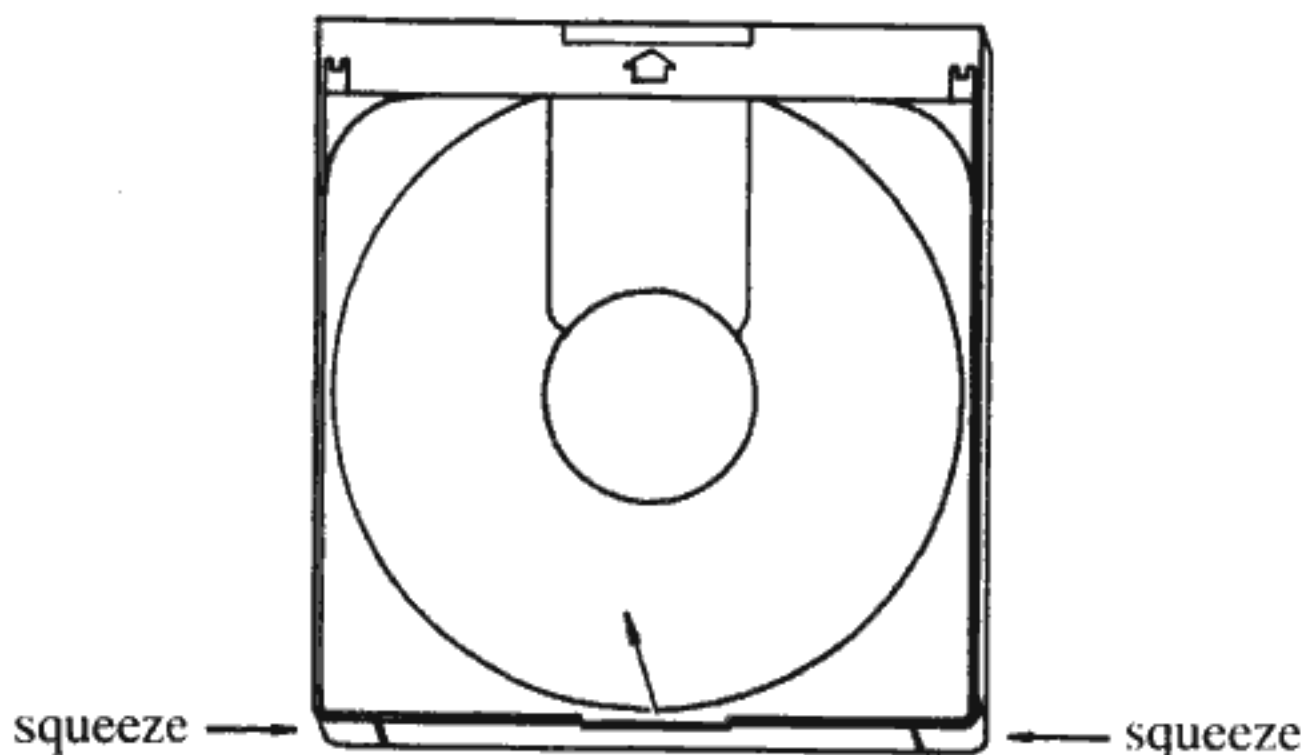

Fig. 2 - Opening the Disc Caddy
- 1) To open the disc caddy, squeeze the two tabs inward with one hand while lifting the center flange upward. See figure 2.